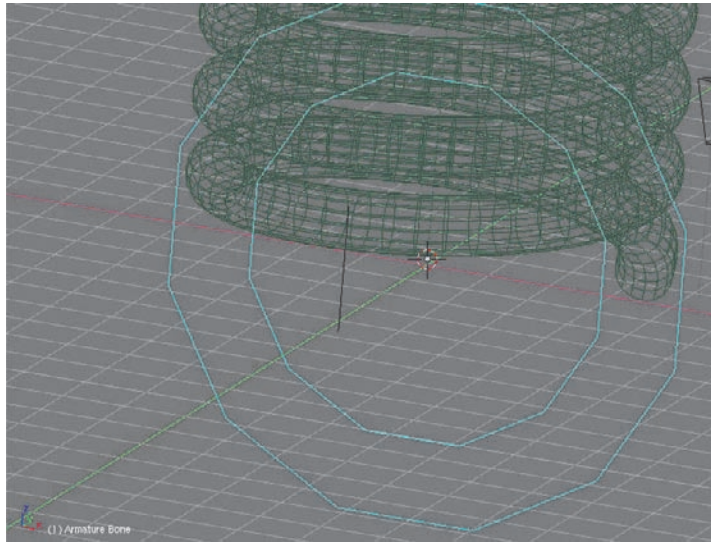
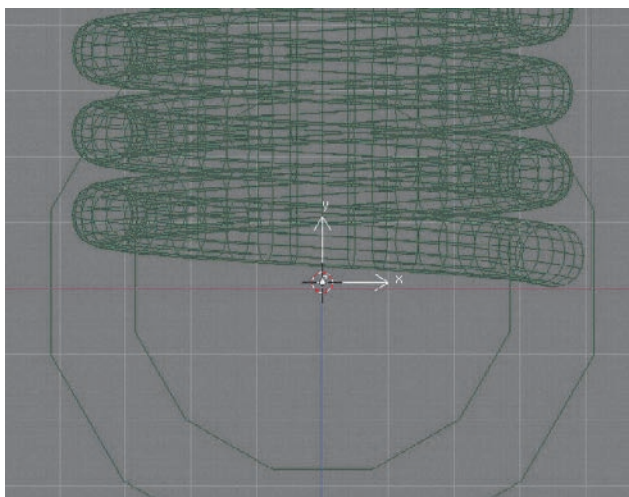

Figure 3.6 Select the lower control bone and snap the cursor to it.
Figure 3.8 Add an empty.
2. Select the armature and enter Pose mode. Select the lower control bone as shown in Figure 3.6 and snap the cursor to that bone, using Shift+S to access the Snap menu and choosing Cursor > Selection. Return to Object mode, select the Mesh object, enter Edit mode, and select one vertex. Snap the vertex to the cursor with Shift+S and then Selection > Cursor, as shown in Figure 3.7. Return again to Object mode, and add an empty to the same point, as shown in Figure 3.8. Because there is already an empty in the scene (the one controlling the Array modifier), this new empty will be automatically named Empty.001.